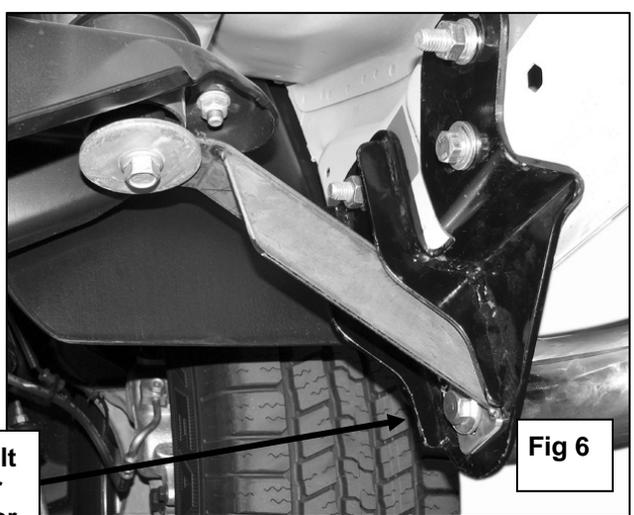

Fig 6
10. Next, select the passenger sidebar and fasten it to the front Mounting Bracket and Support Bracket with the included (1) 1/2" x 2" Hex Head Bolt, (1) 1/2" Lock Washer, and (1) 1/2" Flat Washer **(Figure 6)**. Do not tighten at this time. Repeat this step for rear Sidebar mounting.